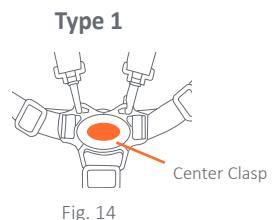

Fig. 14
14) • To release, push Button on Center Clasp, the two Harness Buckles will pop free (Fig. 14).